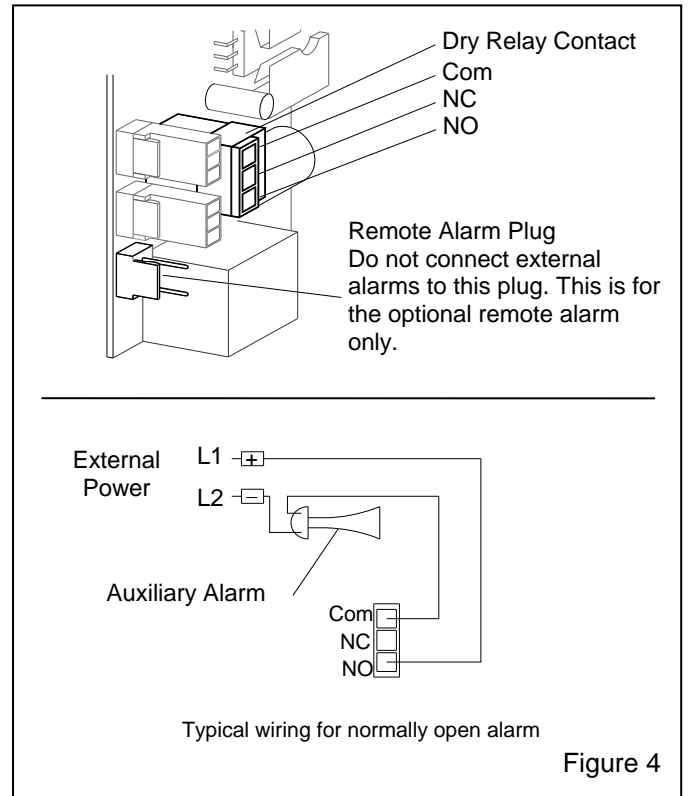

Figure 4
2.4 External Alarm and Shut-Down Device. Refer to Figure 4. Note: External alarms require external
2.4.1 A dry relay contact is mounted on the circuit board (Ref. Figure 4), for use with external alarms and shut-down devices. These contacts are rated at 5 amperes. Use the contacts to operate relays for external devices.